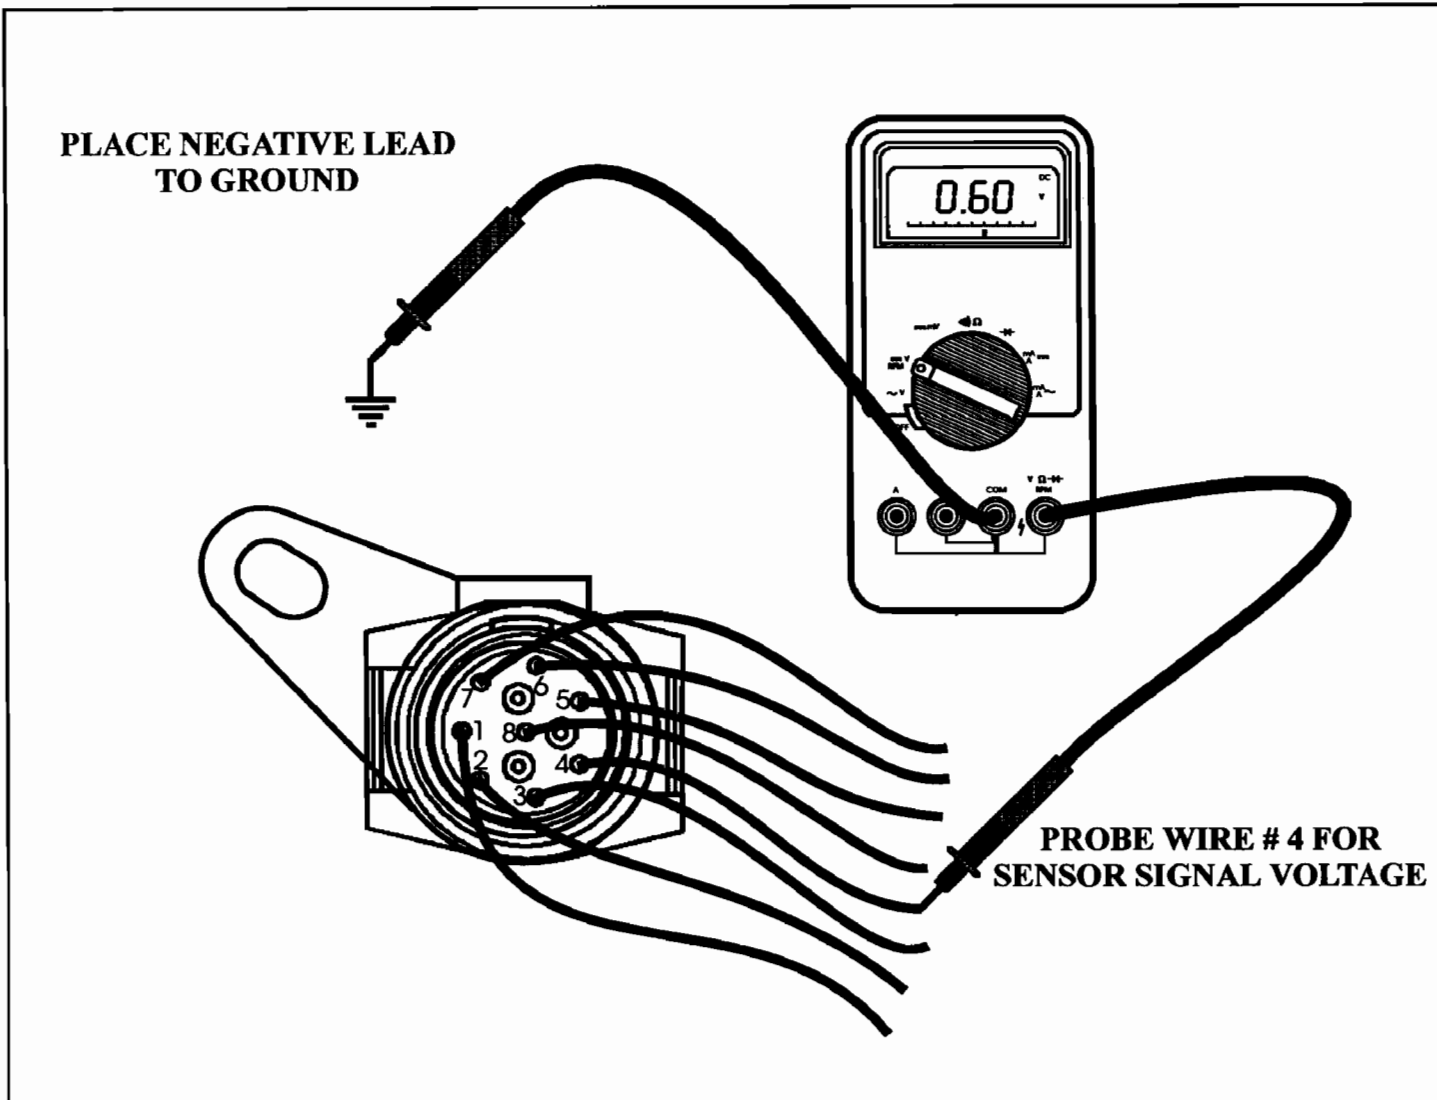

Figure 3
- (b)** Once oriented to the case connector and vehicle harness connector, locate terminal number 4 and connect the vehicle harness back onto the case connector. With your DVOM set on DC volts, place the negative lead to a known good ground. Carefully backprobe into wire number 4 with the positive lead, as shown in Figure 3.
**CORRECTION (A): (Continued)**